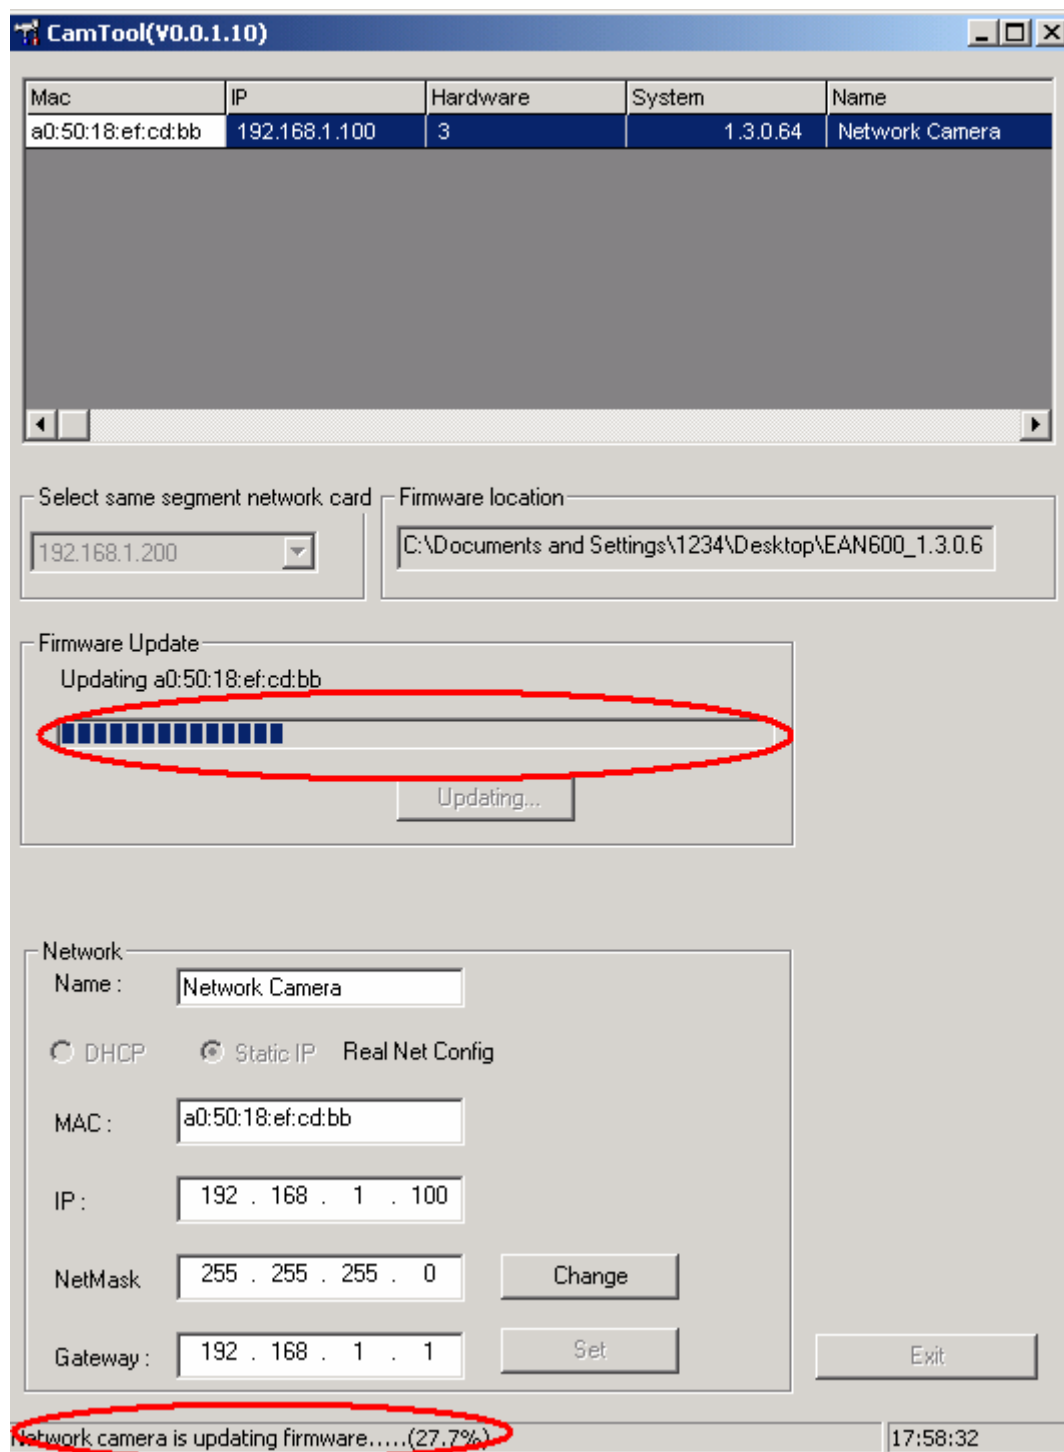
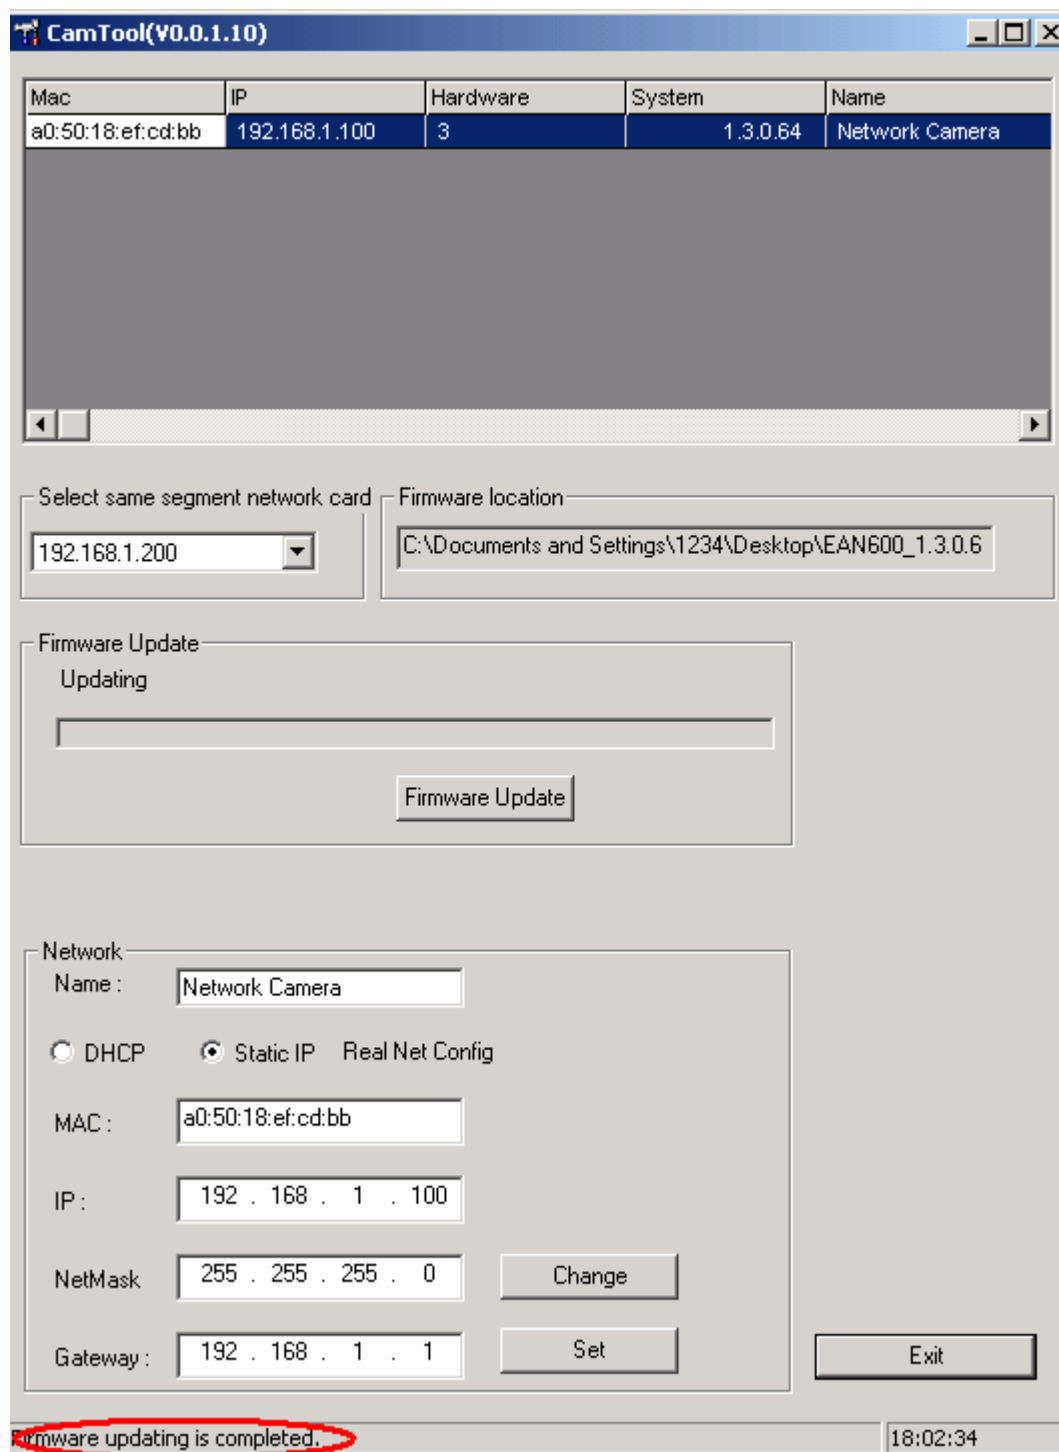

Figure 8
Figure 9
If the authorization of the password is passed, then the Updating progress bar should be in action status. (Please see red mark of figure 8) Wait until the progress bar is completed. (Please see figure 9)
The current progress time should be finish in 30 seconds, and please wait till it completed. (Please see figure 9)
3. Network camera is upgrading. (Figure 8)
4. Update firmware Okay. (Figure 9)